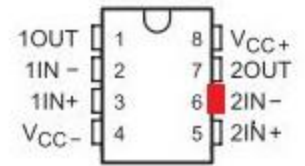

Figure 8: Port 6 - insert input from function generator
- Insert one end of the 3-4 inch wire into the port 6 node, denoted in Figure 8.